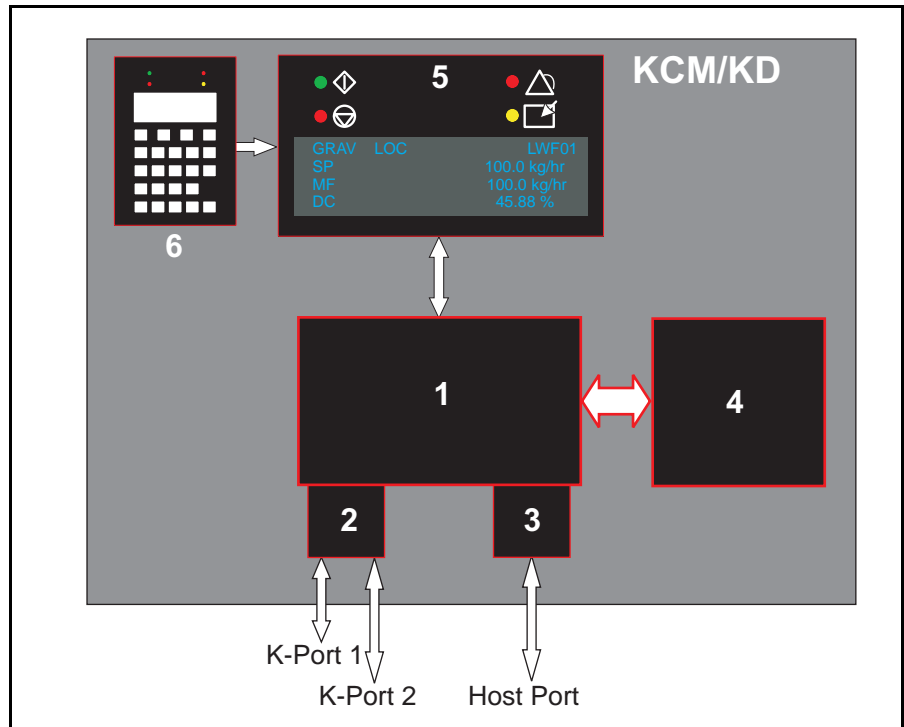

Fig. 2.4 KCM circuit assemblies-basic structure
- The K-Port, Host Port and Local Display/Keypad are optional depending upon configuration. (Fig.2.4)